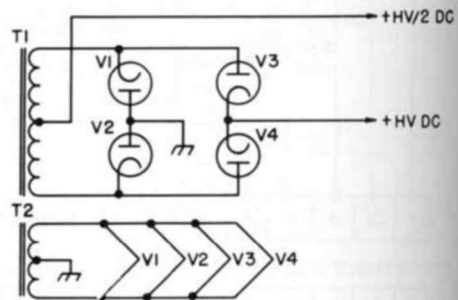

FIG. 12. BRIDGE RECTIFIER CIRCUIT USING FOUR TV DAMPING DIODE TUBES WITH ALL HEATERS POWERED FROM ONE LOW-VOLTAGE TRANSFORMER.
1. "The case of the missing 'O'--in Figure 12," the schematic diagram for the mobile tube heater circuit, the current balancing resistors in the circuits of "A" and "B" should be 10 ohms, and not 1 ohm, as was shown in these diagrams. The correct diagram is repeated at the right.
The TV damping diodes also may be used in all four legs of a bridge rectifier, as shown in Fig. 12 below. All four tube heaters may be powered from the same 6.3-volt heater supply, which should be tied back to the negative side of the high voltage output. Type 6W4-GT and 6AX4-GT tubes will deliver up to 250 ma of DC output current; and type 6AU4-GT's will deliver up to 380 ma.